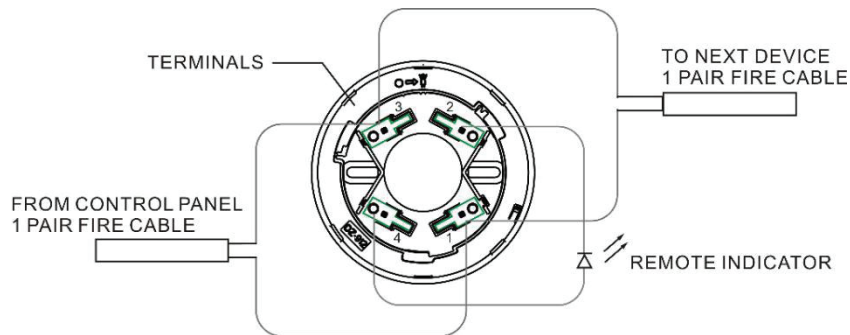

Fig.4
3. Remote Indicator connection: the negative and positive of remote indicator should respectively connect on terminals 2 and 4, as shown in Fig.4.